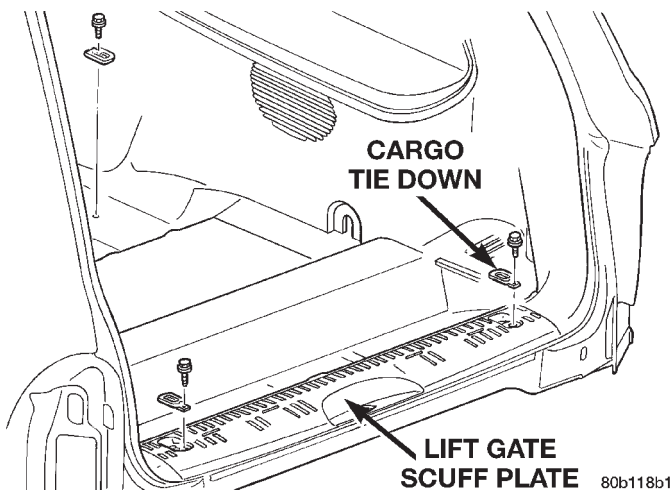

Fig. 87 Liftgate Scuff Plate
- (1) Remove screws attaching cargo tie downs to liftgate scuff plate (Fig. 87).
- (2) Grasp scuff plate and lift upward to disengage spring clips.
- (3) Separate scuff plate from liftgate opening.
- (1) Position scuff plate in liftgate opening.
- (2) Press scuff plate to engage spring clips.
- (3) Install screws attaching cargo tie downs to liftgate scuff plate (Fig. 87).